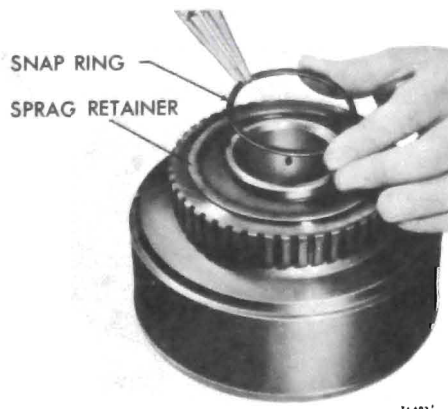

Figure 76-694
16. Install sprag retainer snap ring. See Figure 76-694.